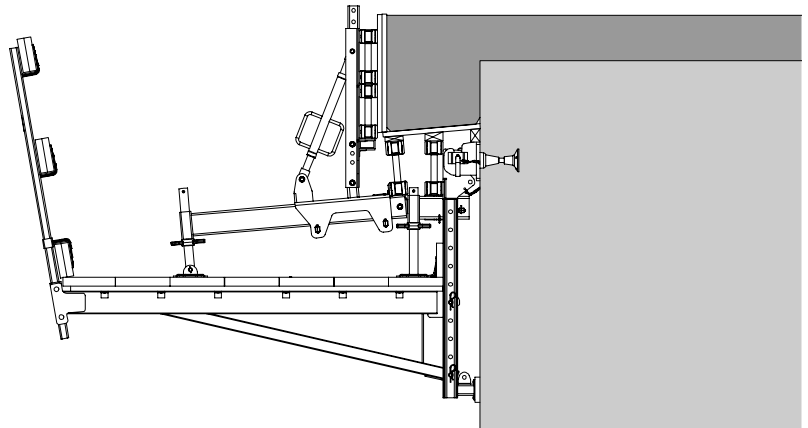

Fig. C3.06
- Dismantle and remove the formwork unit. (Fig. C3.06)